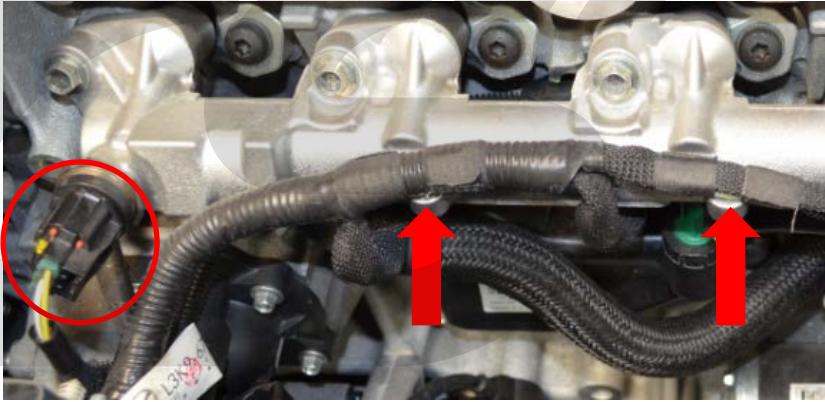

Figure 6e
- e) **Disconnect the fuel pressure wire** shown the red circle in Figure 6e.
- f) **Remove the fuel injector wiring harness** from the fuel rail. Use a Philips screwdriver to push the plastic clip in the directions of the red arrows. (Push from underneath) Shown in Figure 6e.